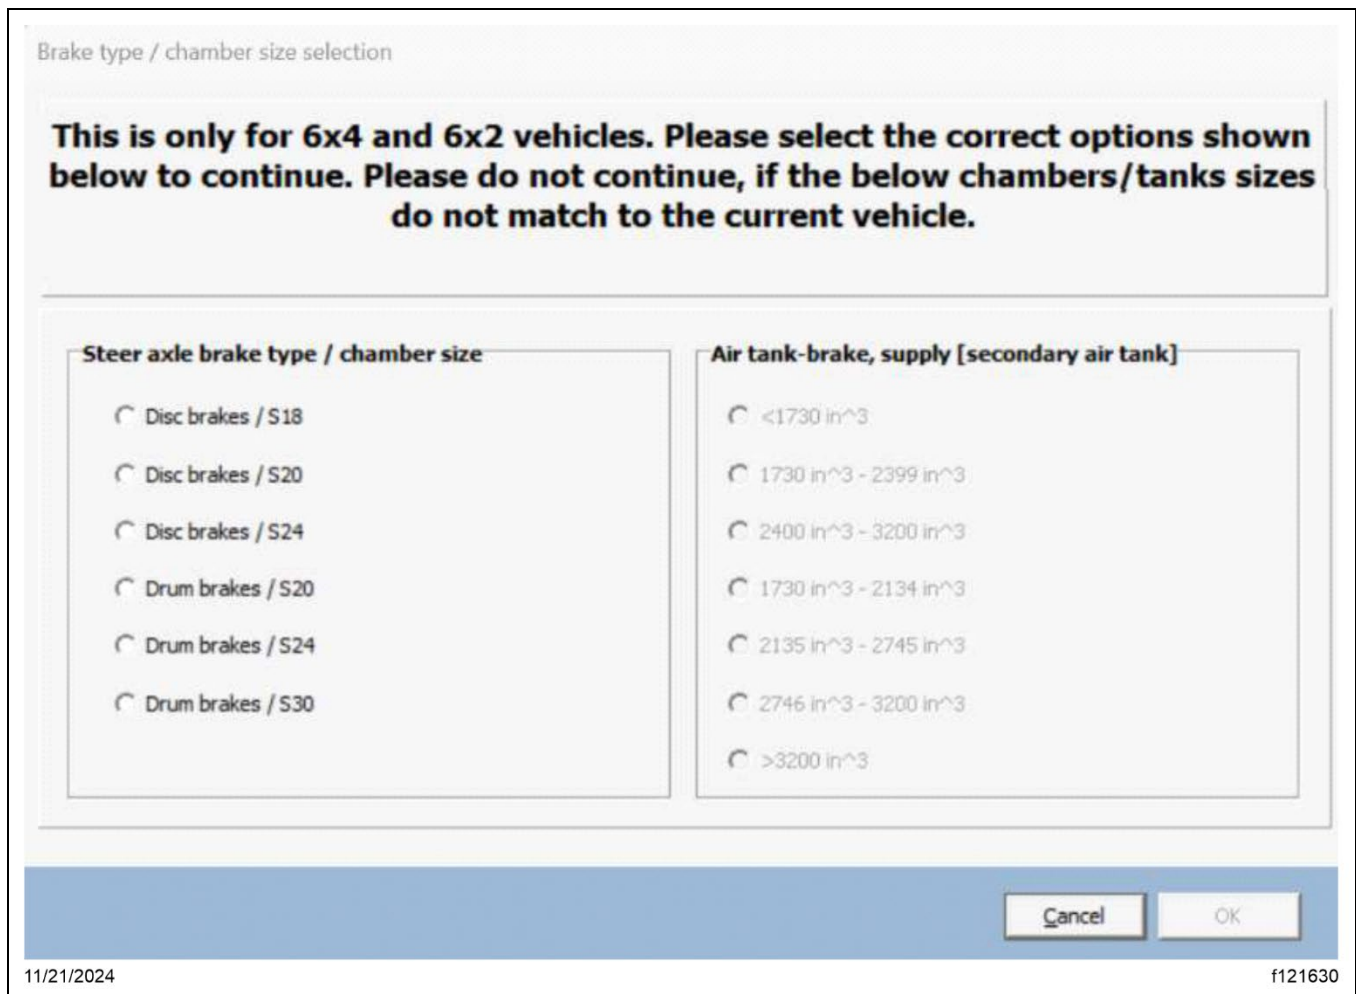

Fig. 52, GUI Selection Window
16. If the vehicle is a 6x4 or 6x2, the GUI selection window pops up after selecting the 'Write to ECU' button. A selection must be made to continue flashing the ECU. See Fig. 52.